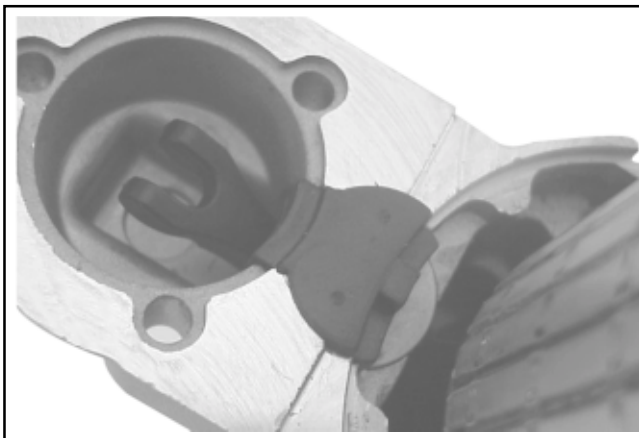

Figure 8-60. Installing Backup Washer and Grommet.
7. Install the backup washer, followed by the rubber grommet, into the matching recess of the drive end cap. The molded recesses in the grommet should be "out", matching and aligned with those in the end cap. See Figure 8-60.